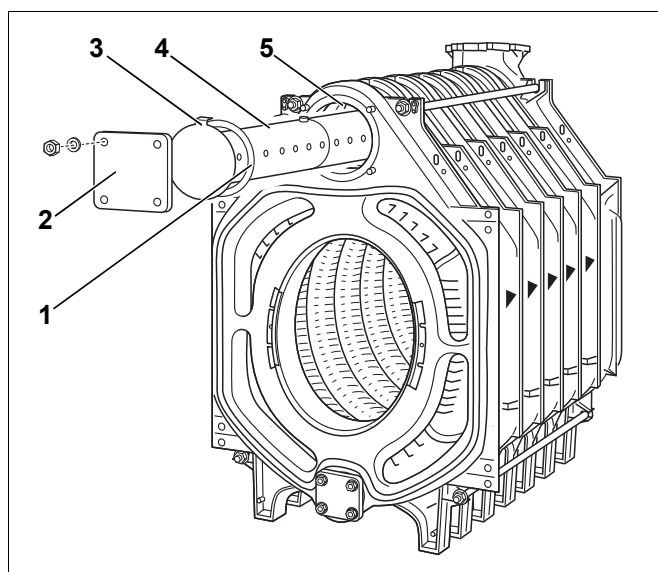

Fig. 24 Install the feed pipe
The feed pipe (Fig. 24, [4]) comes in two parts for boilers with 10 to 12 sections.
- Pull the flat seal over the feed pipe (Fig. 24, [1]).
- Close the pipe with a blanking flange (Fig. 24, [2]).
- Ensure that the lugs (Fig. 24, [3]) on the end plate of the feed pipe engage into the recess of the upper boiler hub (Fig. 24, [5]).